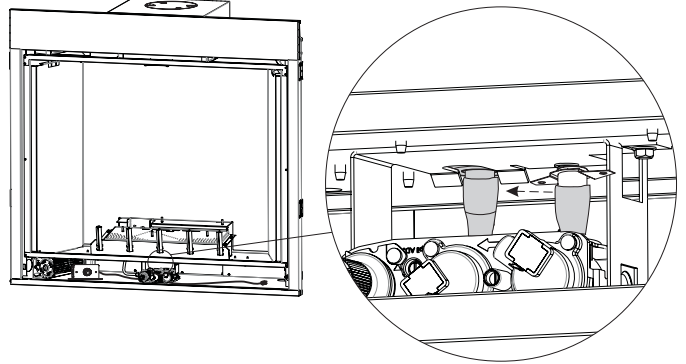

Figure 3
5. Install thermo disc by snapping into valve bracket burner assembly. **See Figure 3.**